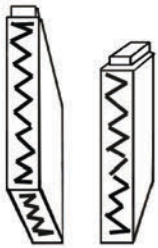

Figure 1
- 4) Apply a bead of silicone in a zig zag pattern along the bottom of the bench legs and any edge or side that will adhere to the wall. (Figure 1) Follow the manufacturer's instructions for applying the silicone.